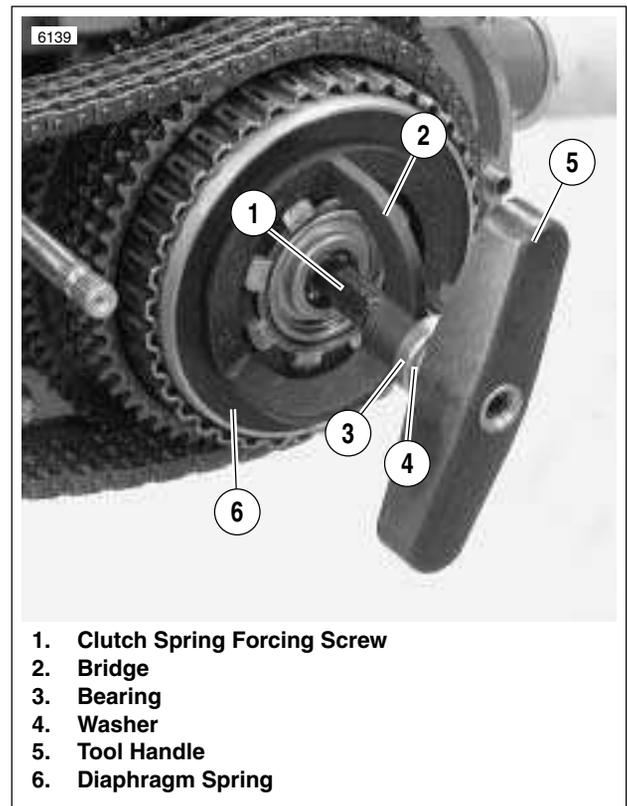

Figure 6-14. Compressing Clutch Diaphragm Spring
3. See Figure 6-14. Attach tools to compress clutch diaphragm spring.
- a. Thread the CLUTCH SPRING FORCING SCREW (Part No. HD-38515-91) (1) onto the clutch adjusting screw.
- b. Place the bridge (2) of SPRING COMPRESSING TOOL (Part No. HD-38515-A) against diaphragm spring (6).
- c. Install bearing (3) and washer (4).
- d. Thread the tool handle (5) onto end of forcing screw.